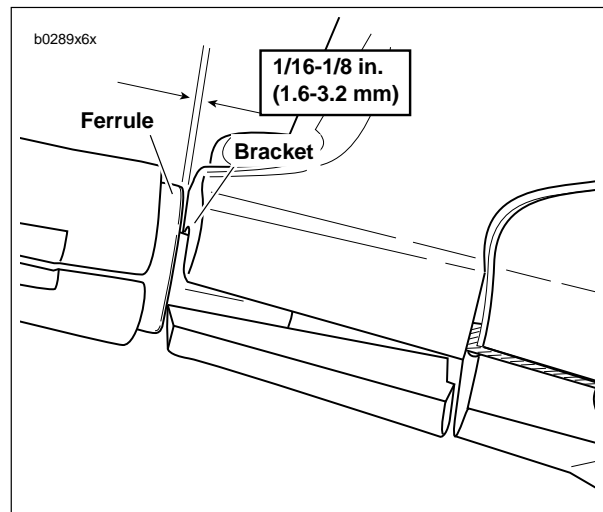

Figure 1-29. Adjusting Clutch Free Play
- a. See Figure 1-29. Pull ferrule (end of cable housing) away from bracket. Gap between ferrule and bracket should be 1/16-1/8 in. (1.6-3.2 mm).